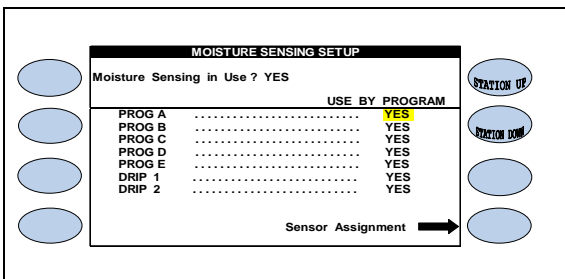

Figure 5.33
- Press the blue **ARROW** keys to move the cursor to the next entry (Figure 5.33)